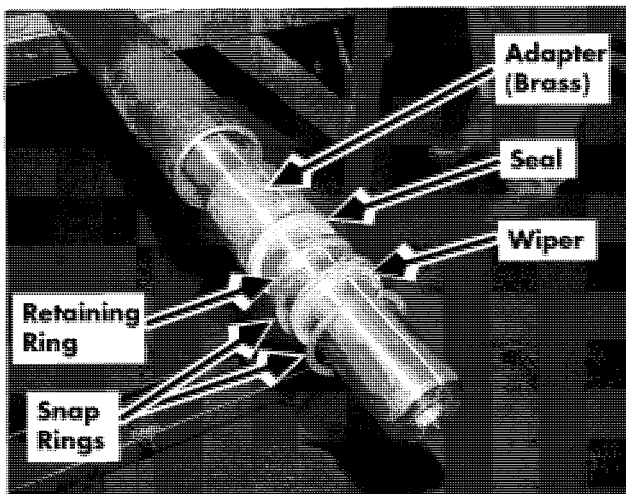

Figure 7-99. Piston Removal
2. Remove snap ring and wiper. See Figure 7-99.
4. Pull piston until piston stop pushes retaining ring, packing and adapter out of cylinder. See Figure 7-99.